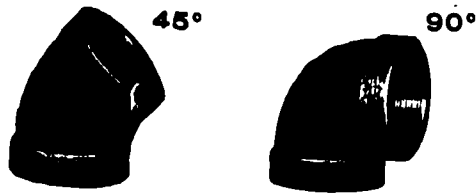

Fig 1-23. Straight elbows (45° and 90°).
- **Elbow:** Sometimes called an "ell" is used to change the direction of a pipe at the end of the run. Some change the direction 90° and are called 90° ells. Other times you may just want to angle off slightly; then a 45° ell is used. Figure 1-23 shows the common 90° and 45° straight elbows.